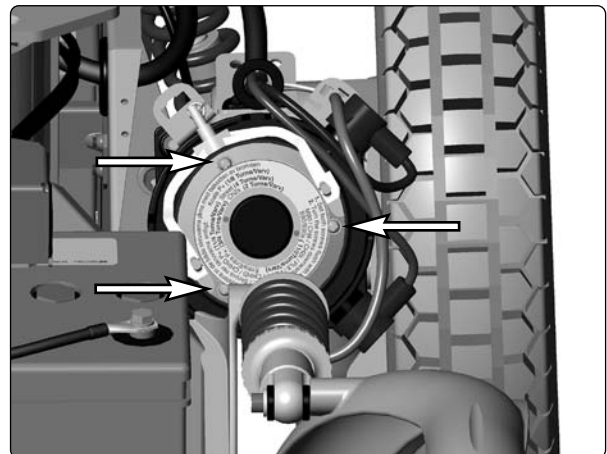

Fig. 39. Remove the magnetic wheel lock.
7. Remove the three screws that secure the wheel lock; see figure 39. Note the position of the wheel lock release lever and rubber seal's placement to facilitate subsequent reassembly. Remove the wheel lock with wheel lock disk and cover.